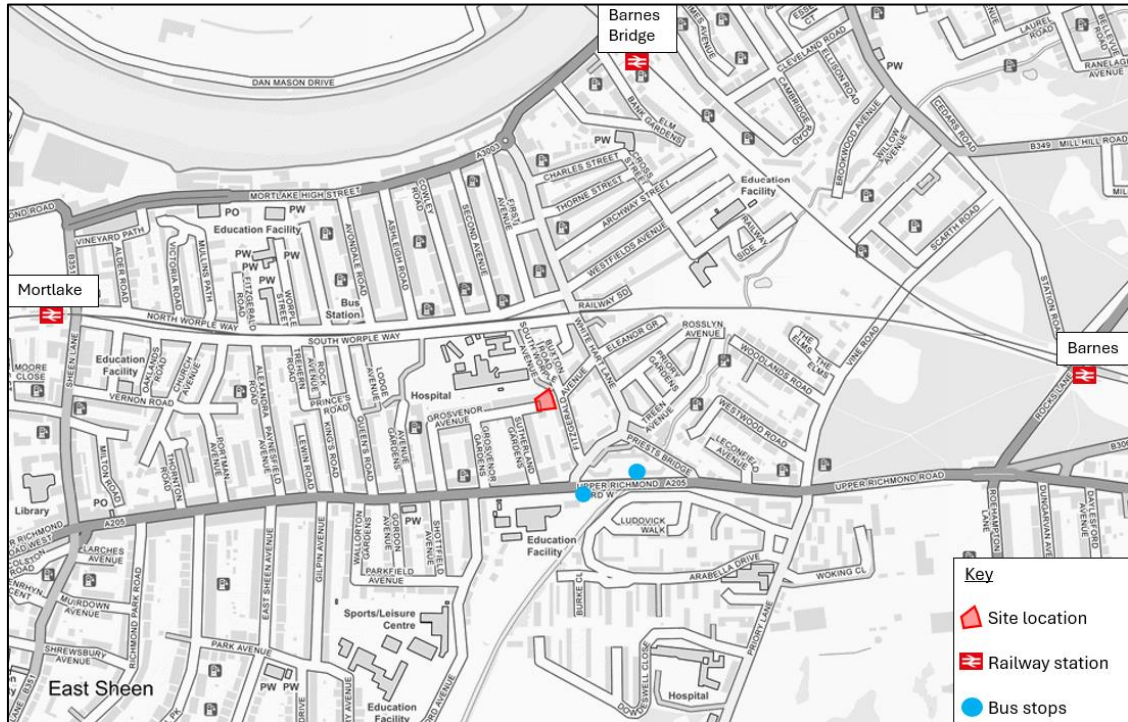

Figure 3.1: Site Location
3.1 The site is located on Fitzgerald Avenue on the corner of the junction with Fitzgerald Avenue and Buxton Road. The surrounding area can be characterised as mainly residential in nature. The site location is illustrated in below in Figure 3.1.